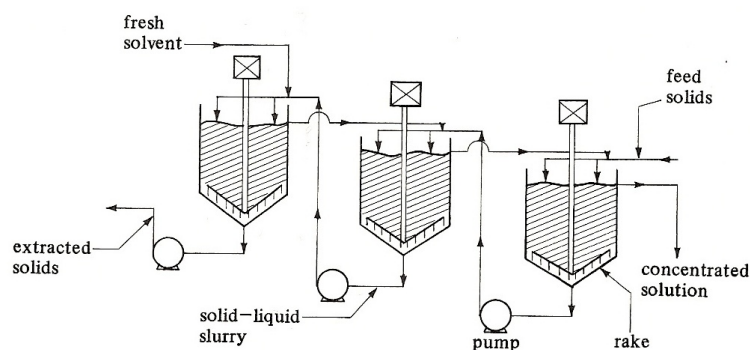

FIGURE 12.8-3. Countercurrent leaching using thickeners.
- Sometimes thickeners are used as combination contactor – agitators and settlers – shown in Figure 12.8-3.